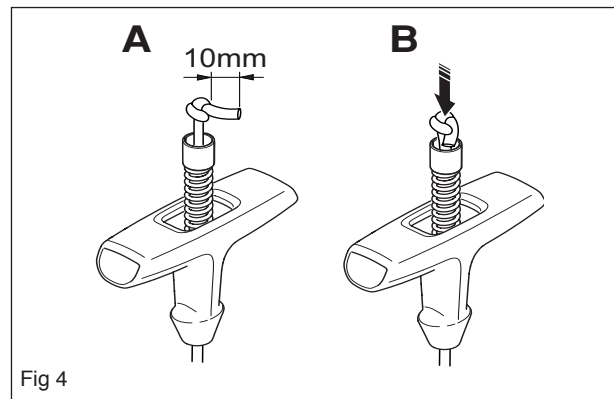

Fig 4
Insert the starter cord through the starter handle and the spring guide. Make a simple knot with approximately 10 mm of the free end protruding. See figure 4 (A).
Turn the protruding end so that it is parallel with the cord before the knot and press the knot into position in the spring guide. See figure 4 (B).